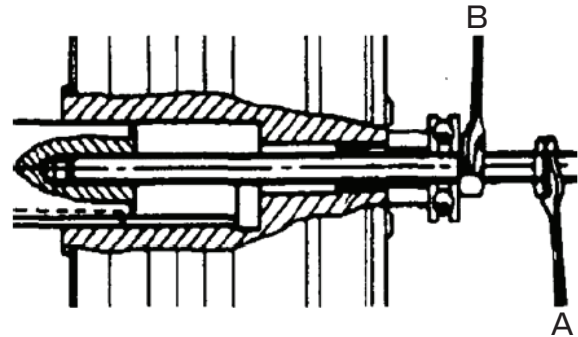

Figure 2 - Installation
Using the threaded bar as shown on Figure 2, and using two wrenches (hold wrench “A” and turn wrench “B” to draw the coupling on to the motor shaft). For a good mounting, make sure shafts are clean and without burrs, and lubricate the mating surfaces with oil or antiseizing grease. Note: In case of hot mounting (not recommended), do not reach a temperature above 195 °F, or higher, which causes irreparable damages to oil seals.
2. Fit fluid coupling on motor shaft by using a threaded bar as shown on Figure 2 and using two wrenches (hold wrench "A" and turn wrench "B" to draw the coupling on the motor shaft).